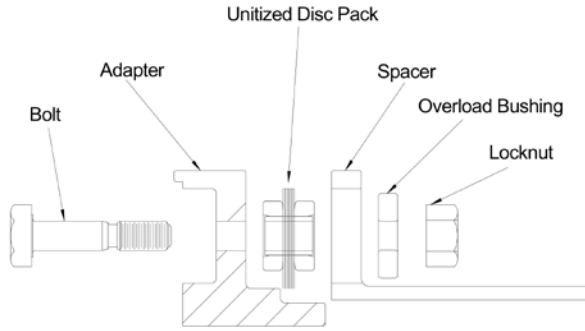

Figure 10A
- 9.6. Install the disc packs to the adapter first so that the bushing heads in the disc pack line up with the bolt holes in the adapter flanges as shown in Figure 10A.